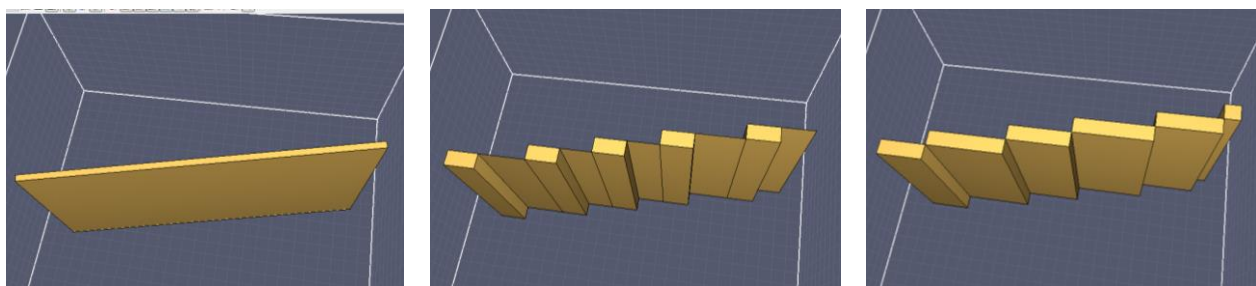

Figure 19.7. Effect of thickening on converted blocks
- **Allow thin obstructions [default]:** Allows objects to become thin as shown in Figure 19.7. This may be overridden for obstructions by turning on **Thicken** in the obstruction properties dialog.¹